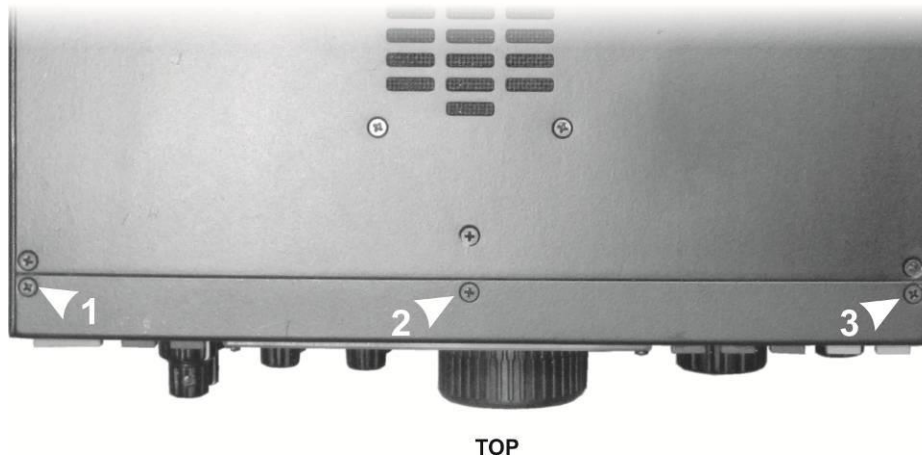

Figure 5. Removing the Top Front Panel Screws.
- ☐ Remove the three screws on the top lip of the front panel (see Figure 5)